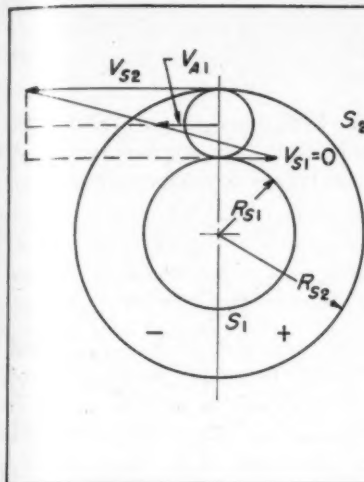

Fig. 3—Linear velocities in planetary gear system for counterclockwise rotation of internal gear  $S_2$  and clockwise rotation of output sun gear  $S_1$
**Motion of Cage:** From Fig. 3, which shows the linear velocities at key points in the planetary mechanism,